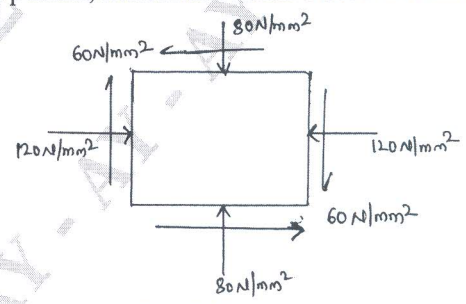

Fig.Q3(a)
- 3 a. The state of stress in two dimensionally stressed body is shown in Fig.Q3(a). Determine the principal stresses, principal planes, maximum shear stress and their plans.